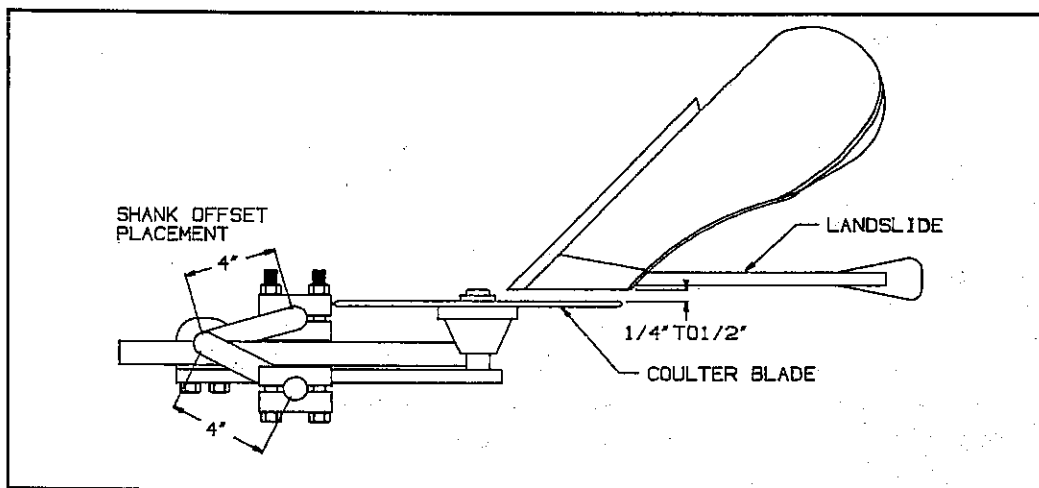

Figure 4-8 Coulters Assembly - Top View
4-9.1 One coulters blade assembly can be attached to the Rollover Plow frame for each plow bottom. The coulters can be attached in one of four configurations (see Figures 4-8 thru 4-12).
a. Insert the couler shank assembly into the shank clamps. Position the blade about 1/4" outside and parallel to the landslide. To do this, pivot the couler shank, as shown in Figure 4-8.